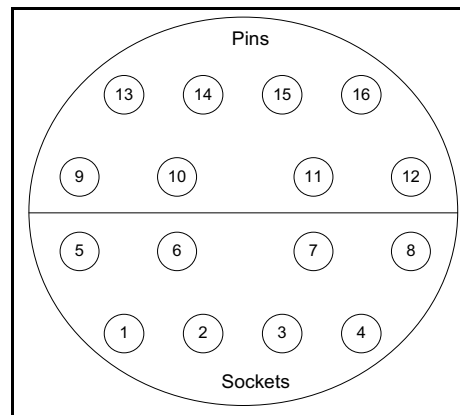

Figure 7.1 Lemo pin/socket positions (Rear View)
- 1 With the electronics cartridge removed, make the following meter checks at the Lemo connection at the bottom of the electronics assembly. Use a standard Multimeter and not a high voltage Megohm Meter for these tests. See Figure 7.1 below for pin/socket position.